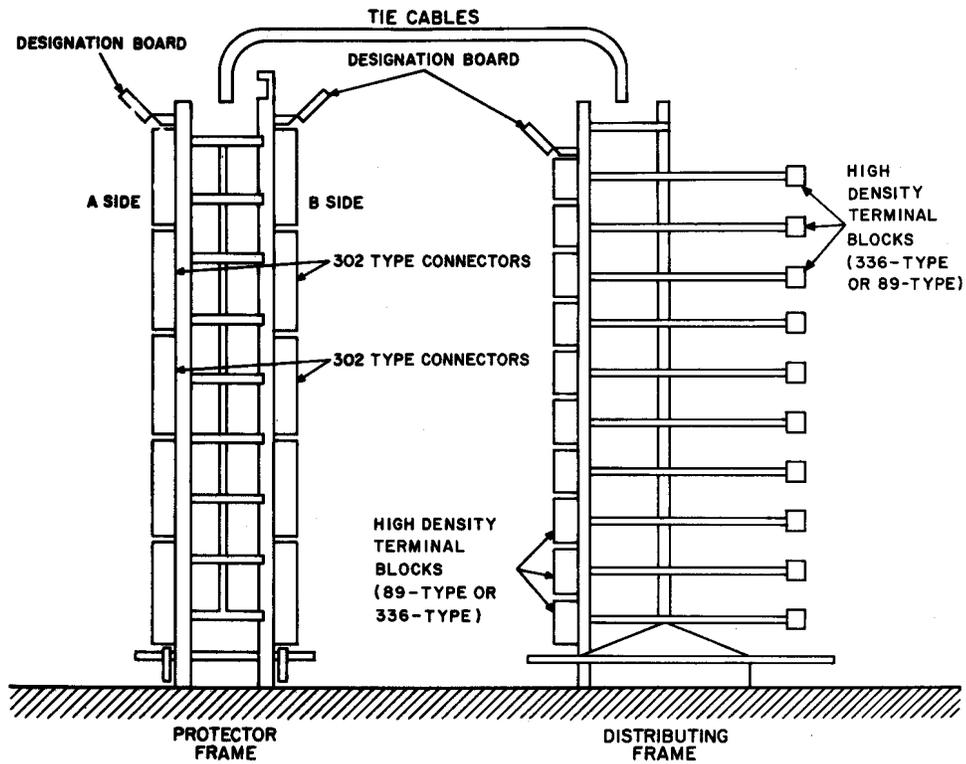

Fig. 2—Low Profile Double-Sided Protector Frame with Low Profile Conventional Distributing Frame
2.08 The low profile double-sided protector frame (Fig. 2) is basically a cut-down version of the taller conventional double-sided frames. The new LPDSPF is 8-feet high by 2-feet 5-inches wide at the guard rails with the verticals spaced on 8-inch centers. Each frame vertical will accommodate five 302-type connectors on each side of the frame which are tie-cabled to ten high-density terminal blocks on verticals of the low profile conventional distributing frame (LPCDF). The protector frame will be supplied in modules of six verticals each.